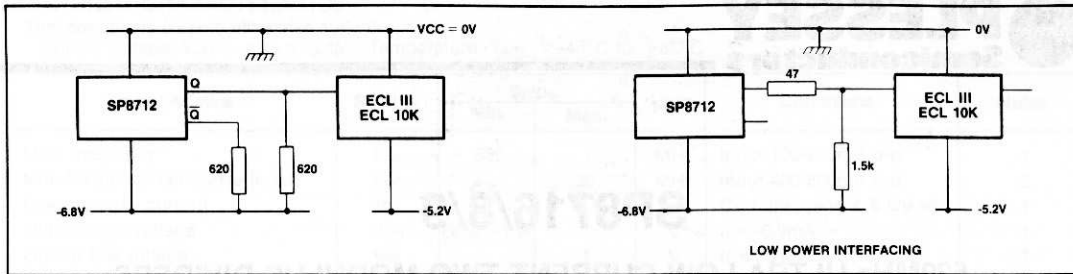

Fig.7 Interfacing SP8712 series to ECL 10K and ECL III
5. The emitter follower outputs require external load resistors. These should not be less than 330 ohms, and a value of 620 ohms is recommended. Interfacing to ECL III/10K is shown in Fig.7.